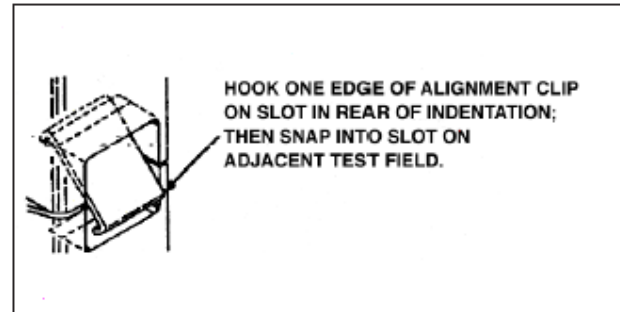

Figure 12
7.2 Install alignment clips. When all C-388 or CG-388 main frame connectors have been mounted on the connector mounting bar, install alignment clips, supplied as part of the connector assembly, between the test fields of adjacent connectors, lining up all connectors. To install the alignment clip, position the clip in the indentation between adjacent test fields, hook one edge of the clip into the slot on one connector; press the clip inward until it snaps into place in the slot of the adjacent connector (Figure 12).